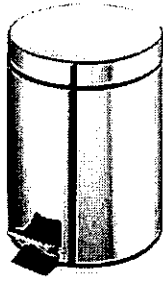

Figure 22: Example of bin with foot pedal*
- 5.8 Five-liter stainless steel trash bin with foot pedal and top for closing (example in Figure 22) (5 sets)